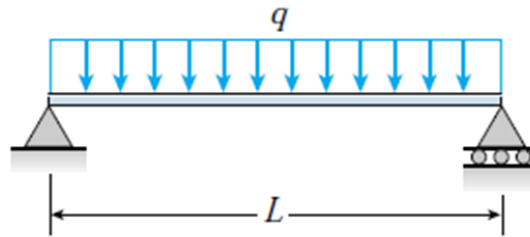

Figure 1
- (b) The simply supported beam shown in Figure 1 is subjected to a uniform transverse load. Find the deflection at mid-span using unit load method. [7M]